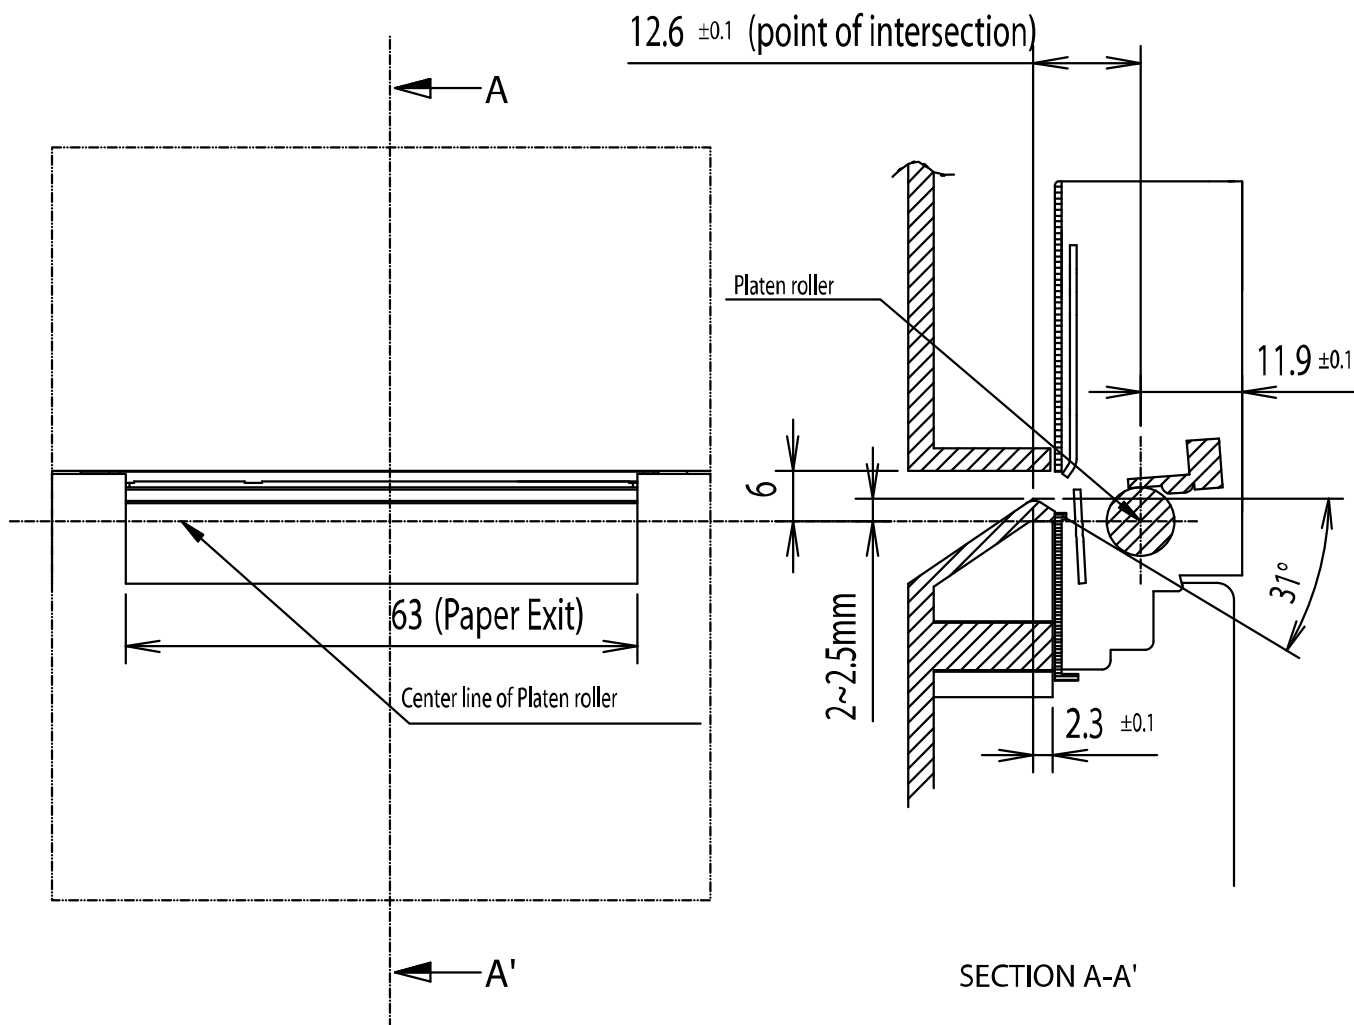

Fig 13-2 Example of recommended paper exit design
- Secure enough space so that paper exit is free from external force during printing. Among the dimensions shown in Fig 13-2, especially incorrect dimension about 2~2.5mm, 12.6 ± 0.1 , and 31° may cause problems such as shortening the life of cutter or paper jam, therefore design the system with the correct dimensions. Check performance by actually using the device.